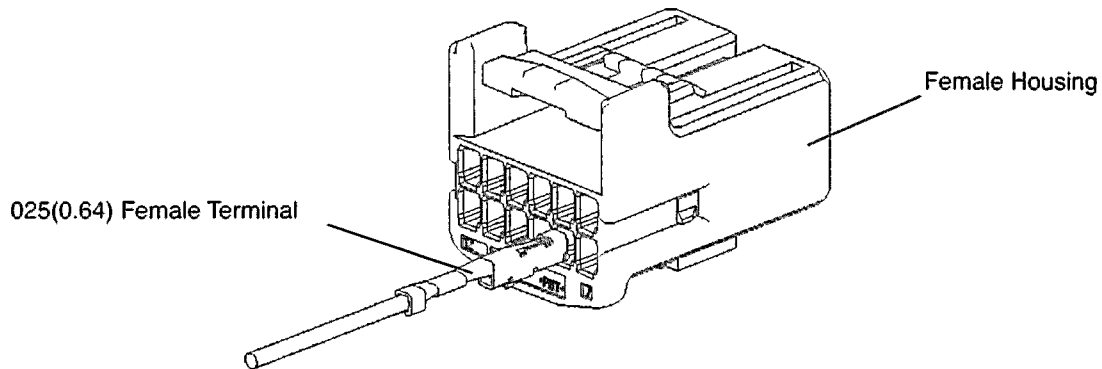

Fig.9
- (3) Insert the terminals into the housing with same direction as shown in Fig.9. The insertion is finished when the lance (Terminal Lance) is locked and the terminal can not be more inserted.